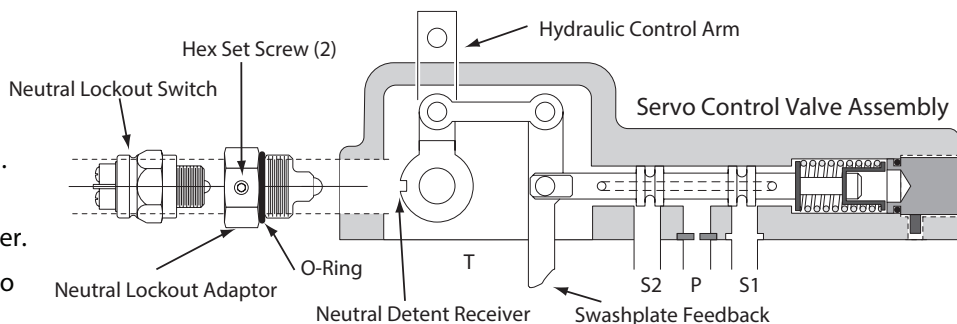

Figure 1-1
2. With the adaptor installed, proceed and install the neutral lockout switch into the adapter, again refer to figure 1-1.
1. With the switch removed from the adapter, install the adapter into the control assembly, refer to figure 1-1. Torque the adapter to 60-72 N·m (44-53 lbf·ft).